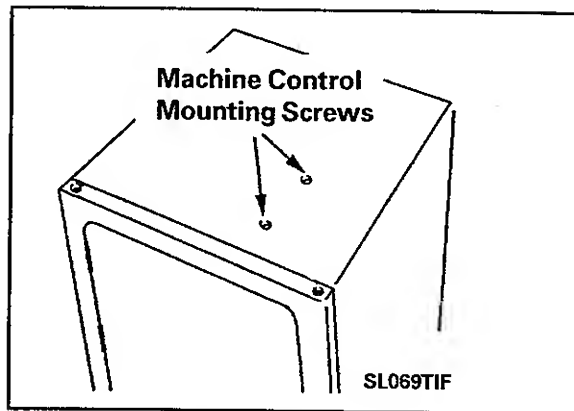

Figure 9-5
located in the front right corner of the dryer top cover (*Figure 9-5*).
3. Remove two 5/16" hex head screws securing the machine control board bracket to the top cover (Figure 9-5).